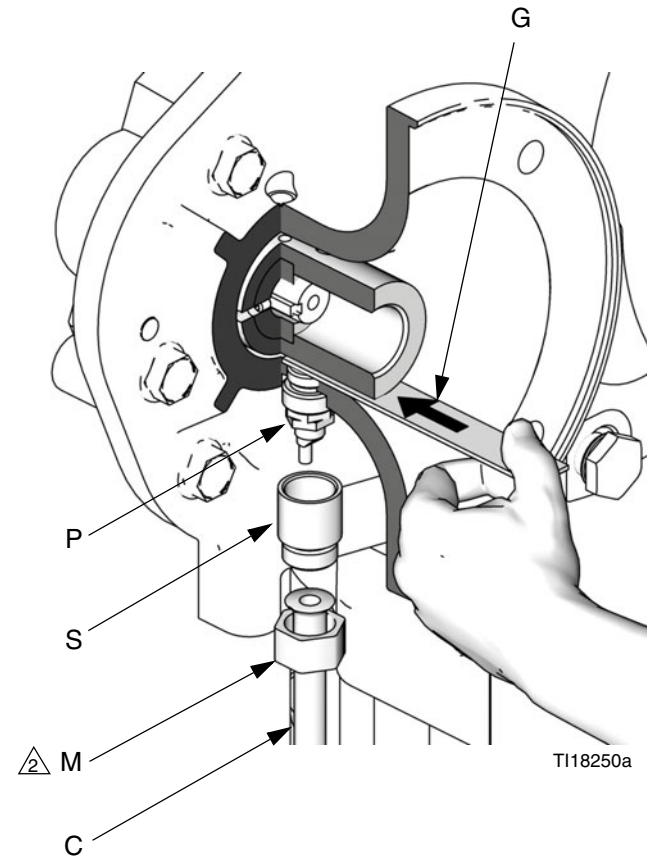

FIG. 6. Measure 1.0-1.2 mm Gap from Sensor to Coupler
9. See FIG. 6. Loosen the jam nuts of the position sensor (P). Adjust the position of the sensor so there is a 1.0-1.2 mm gap between the sensor tip and the coupler. Verify the distance with a feeler gauge (G) or a set of pin gauges, then tighten the jam nuts and sleeve (S) to lock the sensor in place.
10. Secure the conduit (C) to the sleeve (S) with the nut (M). Torque to 15-20 ft-lb (21-27 N•m).